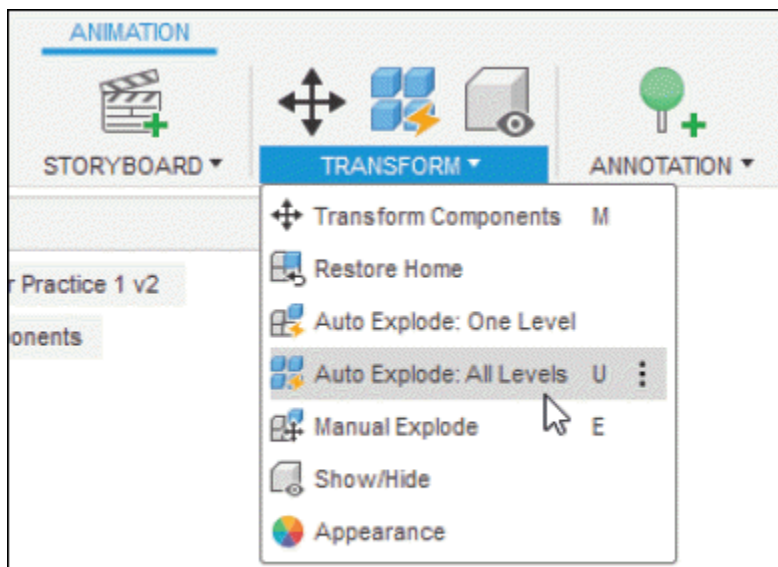

Figure-43. Auto Explode All Levels tool
- Click on the **Auto Explode: All Levels** tool from **TRANSFORM** drop-down; refer to Figure-43. The components of selected model will be separated.